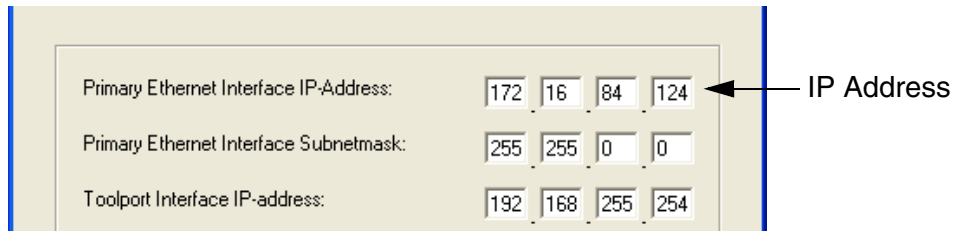

Figure 47. IP Config window for setting unique IP address.
6. Enter a unique IP address (obtainable from your Control Network Administrator). Example: IP address 172.16.84.124, see Figure 47.